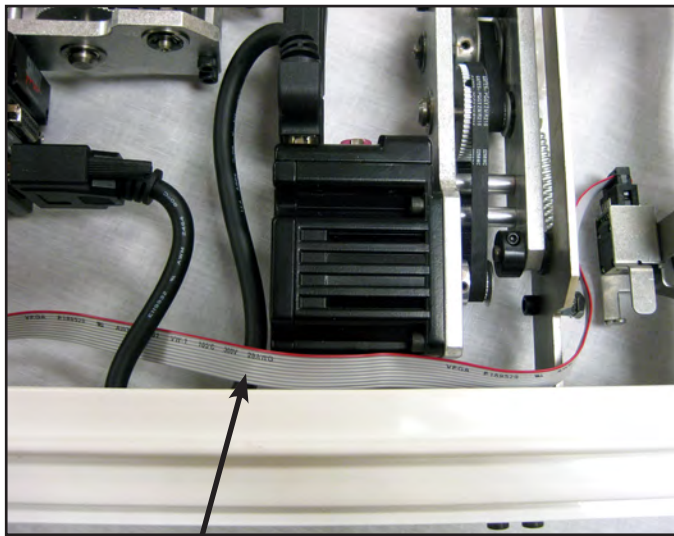
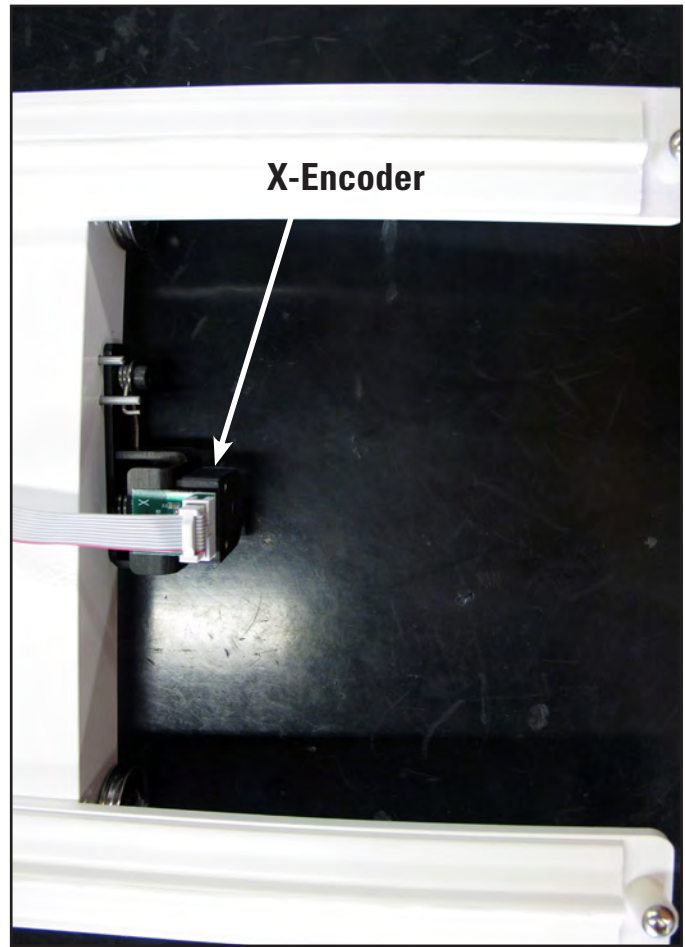

Figure 3.44
Figure 3.45
- a. Plug the 10-pin connector on the end of the flat gray stitch-regulator cable (*opposite the 9-pin D-sub connector*) into the X-axis stitch regulator encoder. Make sure the red stripe on the gray cable is facing up for the HQ-Sixteen (Figure 3.44) and the left (power cord side) for the HQ¹⁸ Avanté (Figure 3.45).
- b. Route the cable around the X-axis motor bracket as shown in Figure 3.44 and through the black motor cable loop to keep the gray cable from interfering with the machine or carriage.